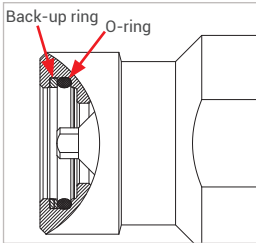

Figure 3
- ▶ Before inserting the receptacle insert (Pos. 7), check both sealing elements (o-ring and back-up ring, *Figure 3*) for correct installation direction, proper position and any damages.